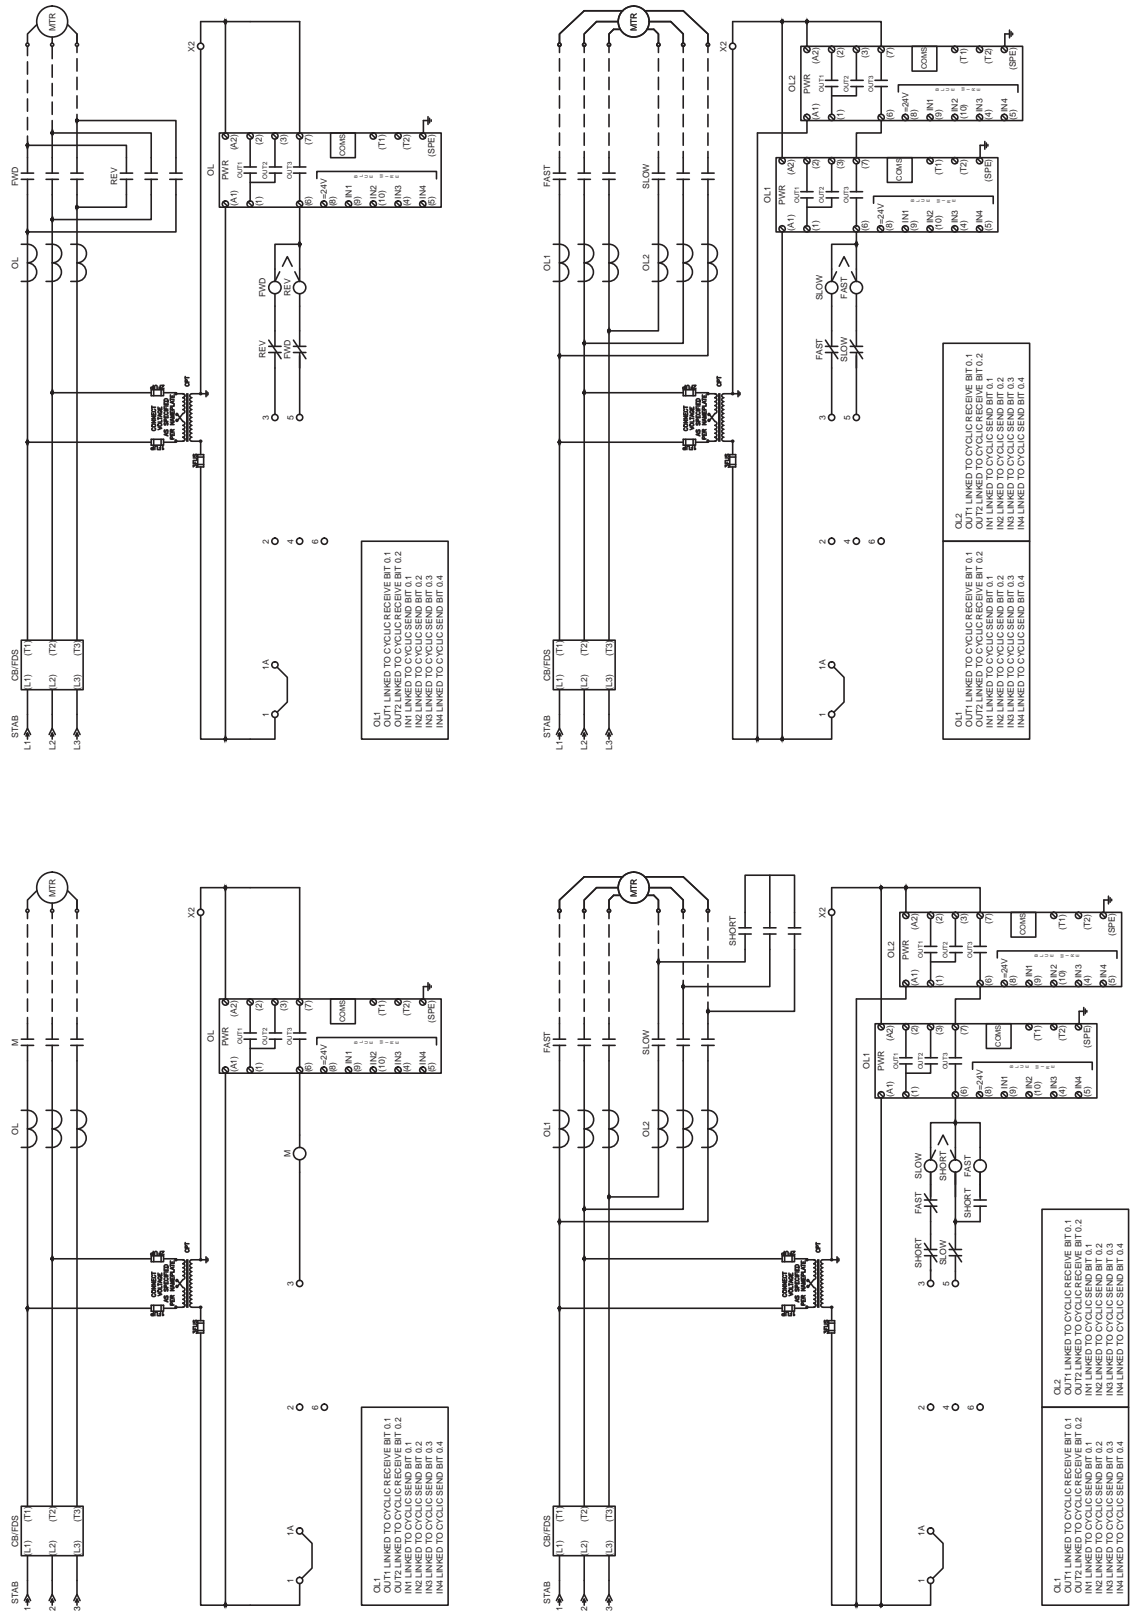

Figure 1
i. ANY/MAINTAINED NETWORK BITS (see Figure 1):